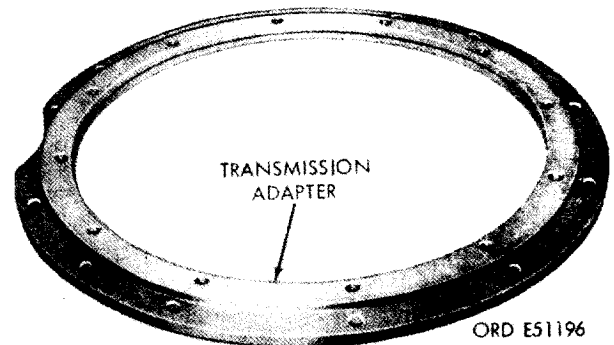

FIGURE 400. INSPECTING TRANSMISSION ADAPTER (LATE MODEL ENGINES).
- (1) Cleaning Clean. the transmission adapter assembly (M) as directed in paragraph 152 c.
- (2) Inspection. Inspect transmission adapter (M-1) as directed in paragraph 153 b. Examine transmission adapter (figs. 400 and 401) for cracks, burs, and distortion on mating surfaces. Inspect helical coil inserts (M-3) for damage (late models). Studs (M-2) must be in good condition and not loose (early models).